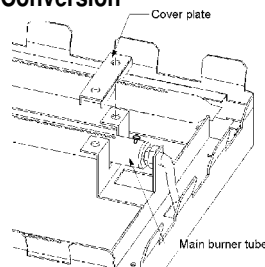

Figure 5. Main Burner.
10. Remove cover plate on both ends of the main (center) burner and remove main burner tube. (See figure 5)